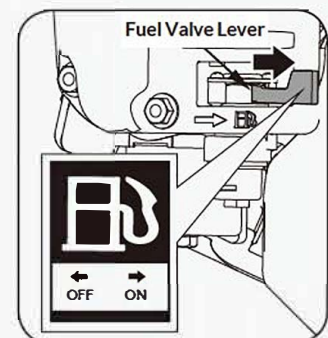

Figure 10
1. Move the fuel valve lever to the **ON** position. (See **Figure 10**)